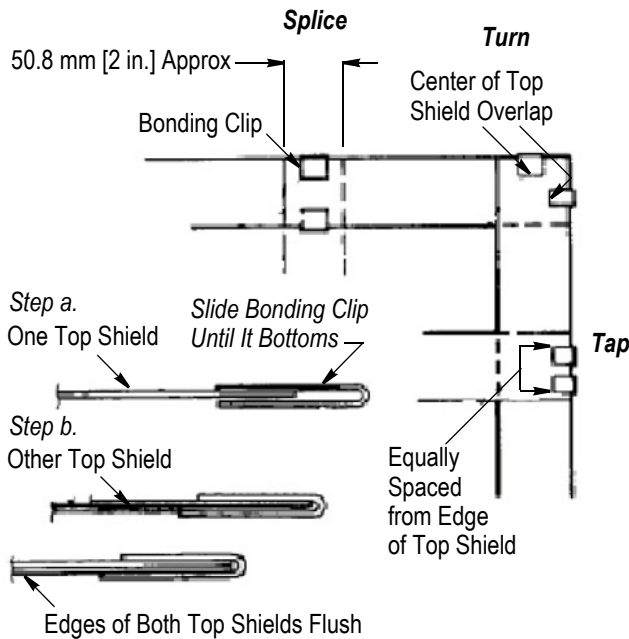

Figure 6
3. Connect the top shield to the taps, splices, and turns using 2 top shield bonding clips at each tap, splice, and turn as shown in Figure 6 and according to the following:
- a. Separate the overlapping top shields, and slide the top shield bonding clip over one top shield until it bottoms. See Figure 6.